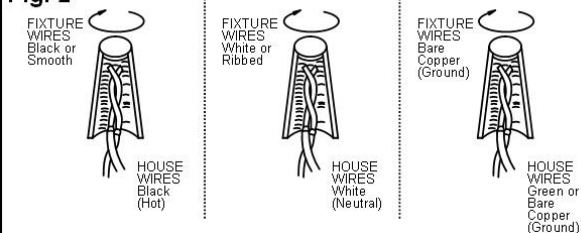

Fig.3
7. To prevent moisture from entering the outlet box and causing a short, use clear caulking (i.e. Indoor/Outdoor Silicone Sealant) to outline the outside off fixture back-plate where it meets the wall leaving a space at bottom to allow moisture a means to escape (Fig3).